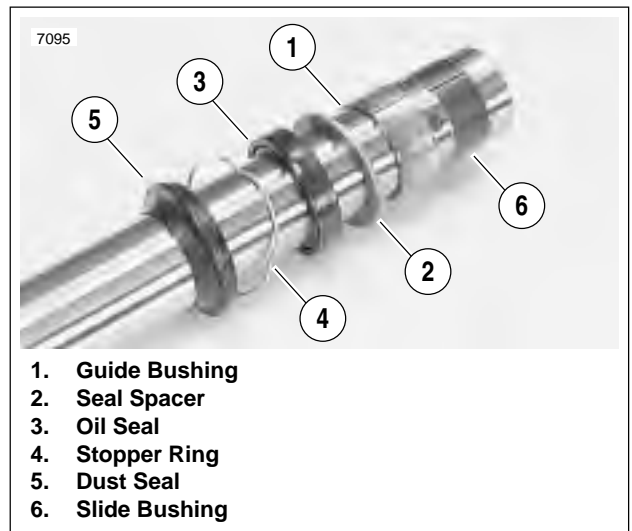

Figure 2-58. Slide Pipe Components
- Remove the dust seal (13) and the stopper ring (12) from the outer tube (8).
- Pull the slide pipe (17) out of the outer tube (8).
- See Figure 2-58. Remove the guide bushing (1), seal spacer (2), oil seal (3) stopper ring (4), and the dust seal (5) from the slide pipe.
- Remove the slide bushing (6) by prying the slide bushing at the split.
- See Figure 2-58. Install a **new** dust seal (5) and stopper ring (4) onto the slide pipe.
- Coat the sealing lips of the **new** oil seal (3) with fork oil or sealing grease and install onto the slide pipe with its marked side facing the dust seal (5). Remove the tape from the slide pipe end.
- Install the seal spacer (2), the guide bushing (1) and the slide bushing (6) onto the slide pipe.
- Coat the slide bushing (6) and the guide bushing (1) with fork oil.